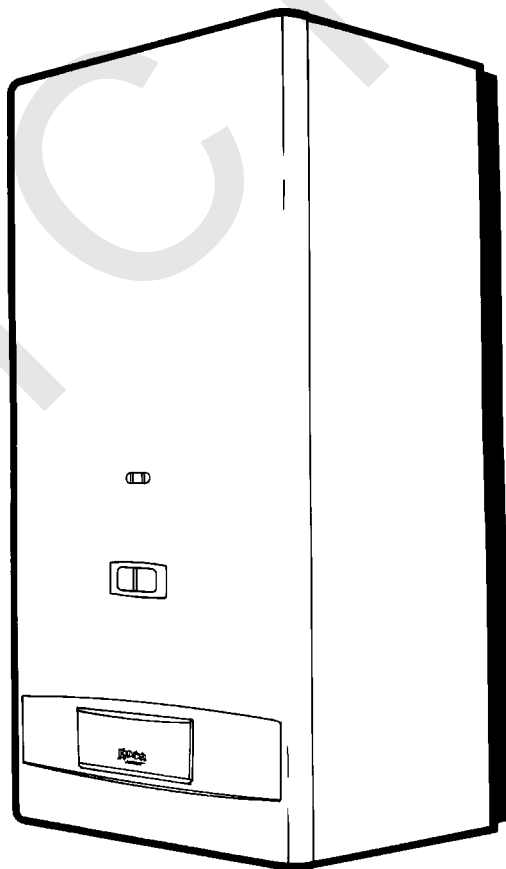

Fig. 1
See Figure 1.
With the service dial (1) at "off"  (see Fig. 1), press the gas supply button (4) right back. Without releasing it, press the ignition button (5). Once the pilot flame has ignited, wait about 20 seconds before releasing the supply button (4). Then turn the service dial (1) to the position required: Winter  or Summer .